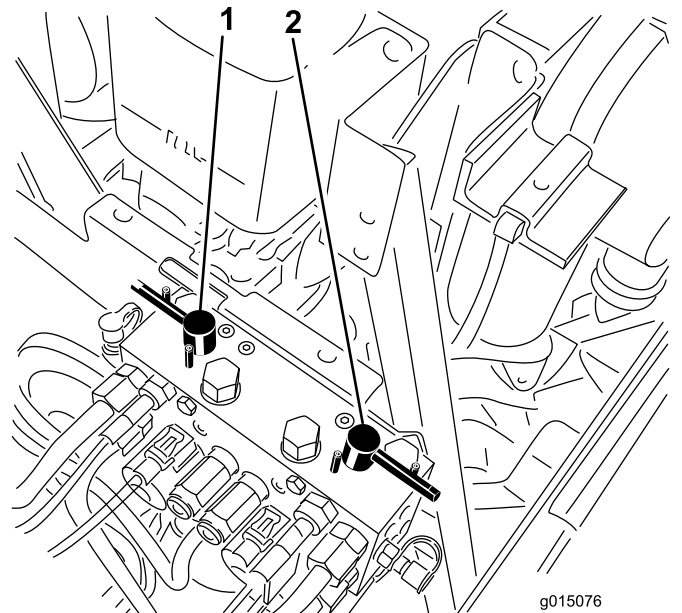

Figure 122
4. Select either front, rear, or both backlap levers to determine which units to backlap (Figure 122).